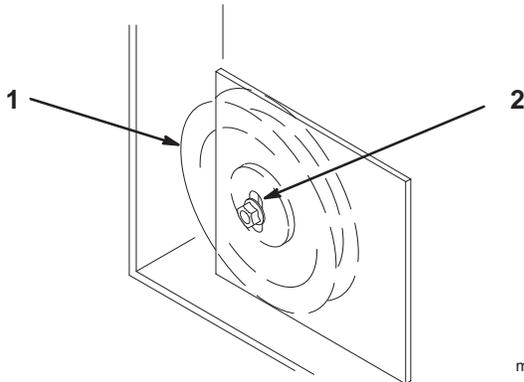

Figure 57
9. If adjustment is required, loosen the fixed idler on right support plate and move up or down in adjustment slot (Fig. 57). To relieve belt tension lift up on spring loaded idler.